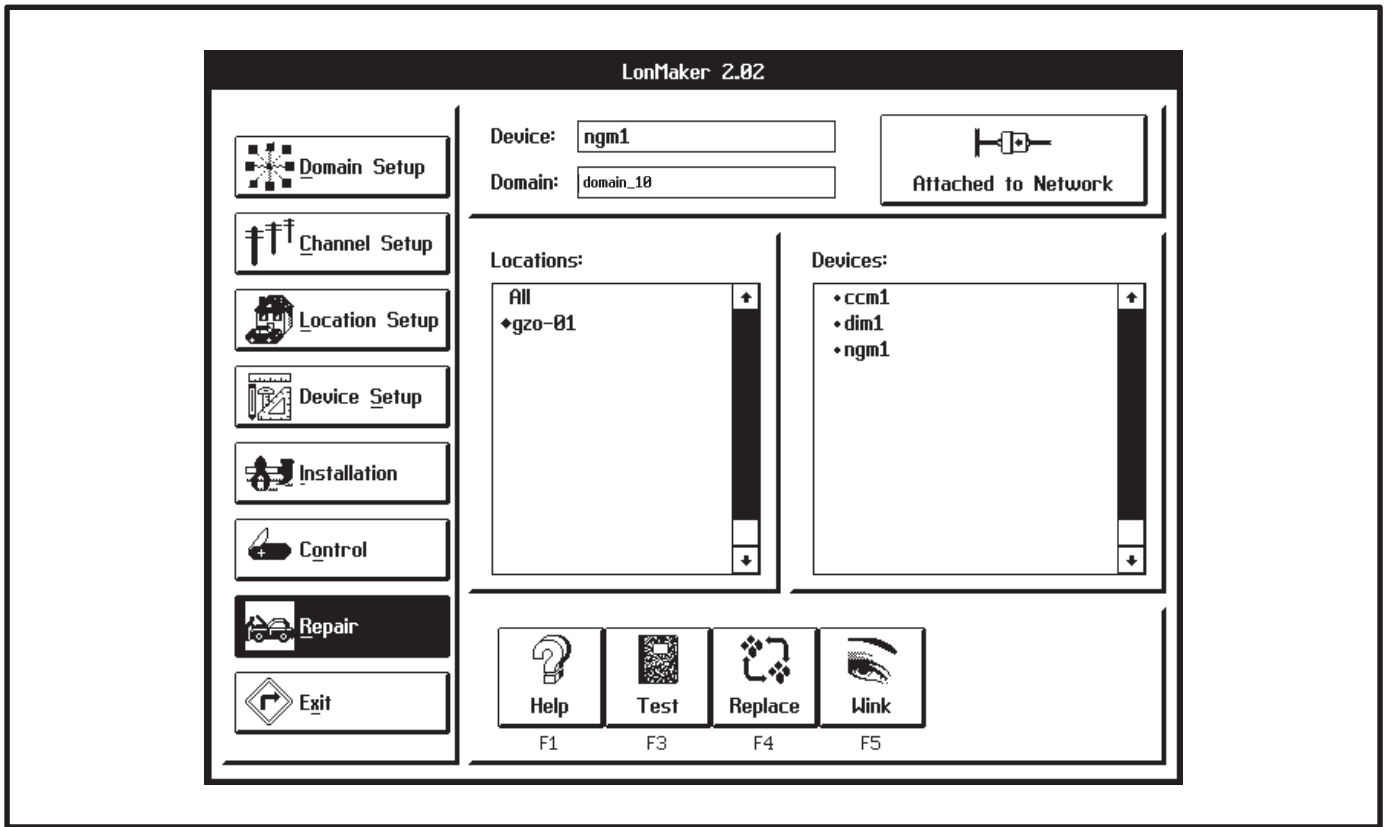

FIGURE 3-16. REPAIR SCREEN
1. Click on the Repair task button (Figure 3-16).